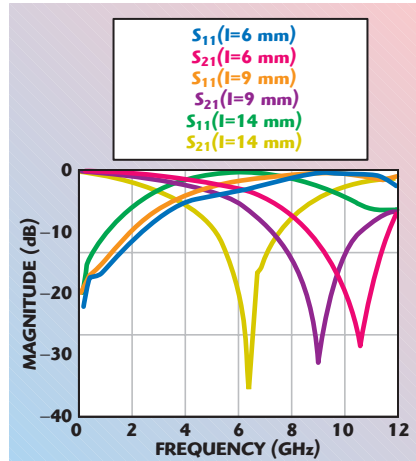
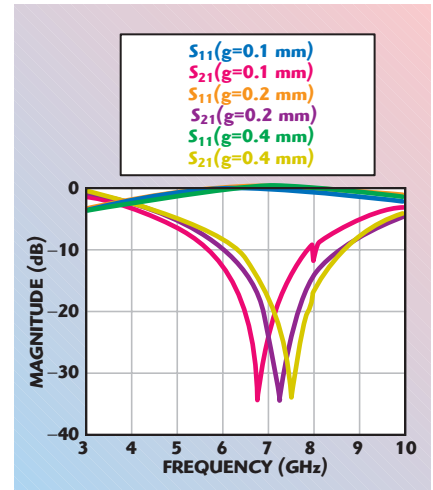

Fig. 4 Simulated S-parameters for different slot lengths.
Fig. 5 Simulated S-parameters for different gap widths.
▲ Fig. 5 Log amp output voltage and linearity error at various 2.35 GHz OFDM modulations.
The influence of the length l on the frequency characteristics is simulated with an electromagnetic (EM) simulator while the gap g is kept constant and equal to 0.2 mm. **Figure 4** shows the simulation results for three different lengths l . The stop-band frequency decreases when the length l increases. The reason is that the large slot area is directly related to the effective inductance. As the length l is increased, the effective inductance increases, and the increasing inductance gives rise to a lower stop-band. At the same time, the width g of the etched gap also influences the stop-band frequency.² To investigate the influence of the gap g , the length l is kept constant and equal to 13 mm. **Figure 5** shows the simulated results for three different gaps. It can be seen that as the width of the etched gap increases, the location of the attenuation pole increases. The reason is that the gap affects the effective capacitance. The increased gap width leads